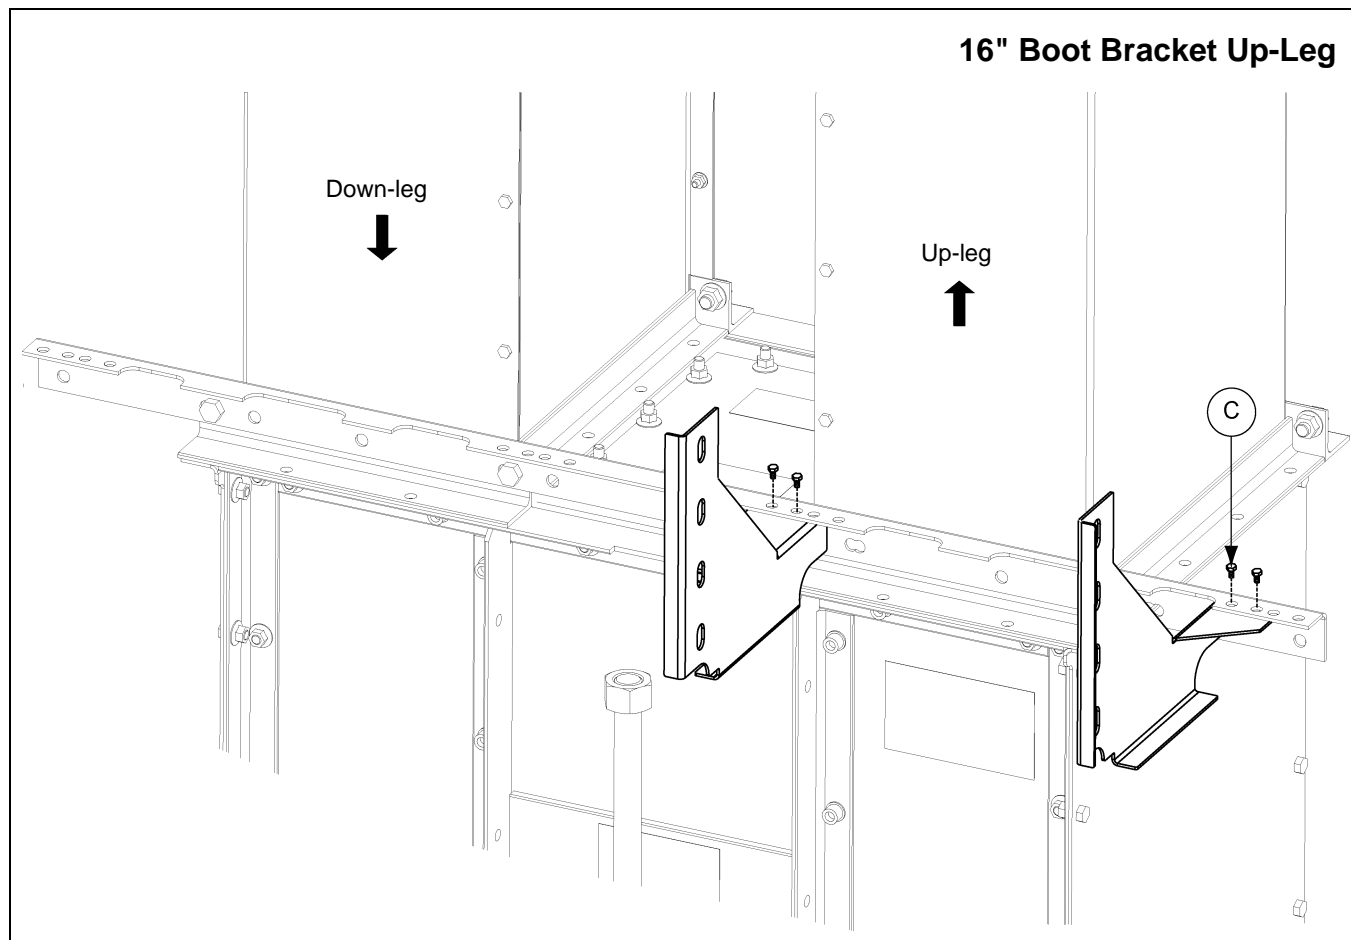

Figure 6D 16" Boot Bracket Up-Leg
- b. **16" Up-leg boot bracket:** Use 3/8" x 1" hex bolts to attach the ladder support brackets to the boot tie angle using the holes indicated in Figure 6D. Note the outer bracket attaches to the tie angle with two (2) empty holes remain on the outside.